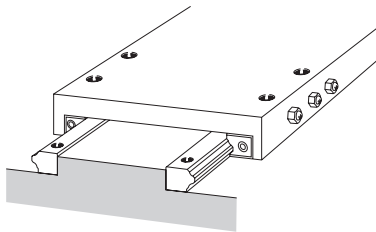

Fig.19
- a. It is preferable to use three clearance adjustment bolts for each LM block as shown in Fig.19.